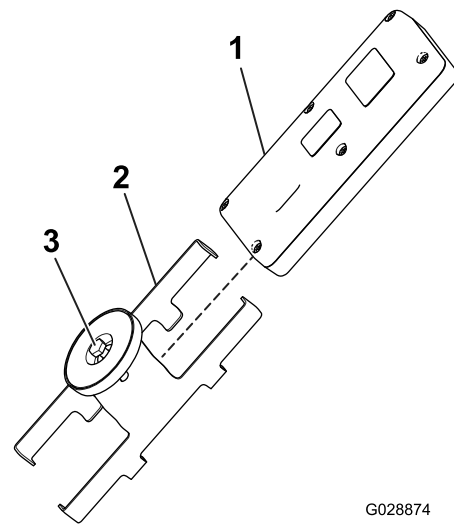

Figure 45
1. Loosen the bolt in the magnet on the magnetic remote bracket (Figure 45).
2. Slide the bracket sides apart and remove the remote (Figure 45).
8. Install the handheld remote into the magnetic remote bracket, slide the halves together to secure the handheld remote, and tighten the bolt in the magnet (Figure 45).